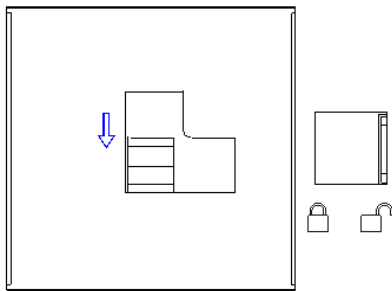

图 10.5
3. Set the maintenance breaker to the position of OFF (Fig.10.5)